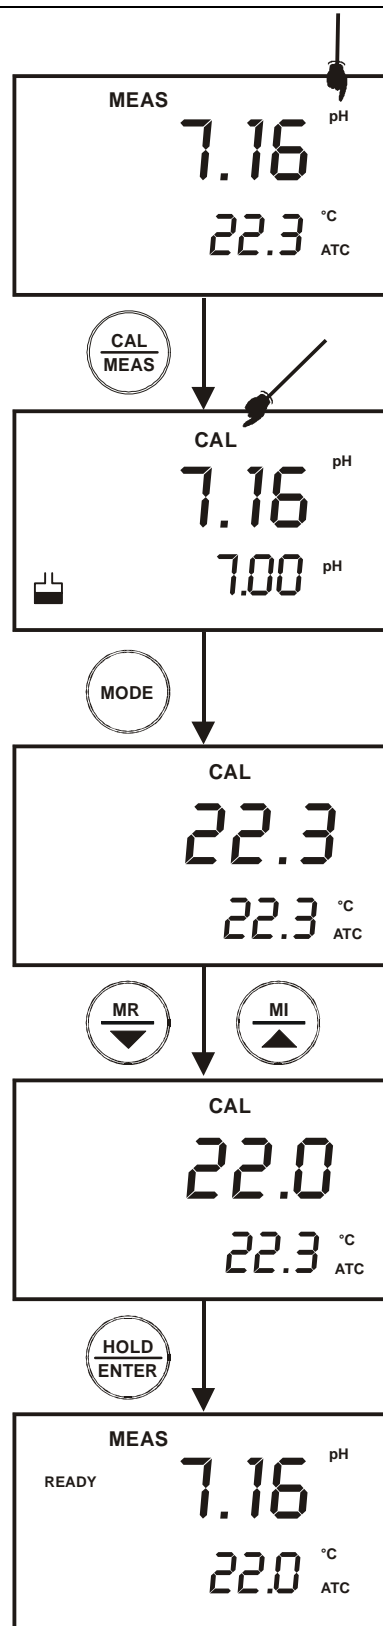

Figure 14: Temperature calibration
7. Once you have selected the correct temperature, press the HOLD/ENTER key. The meter automatically returns to pH measurement mode. See Figure 14.